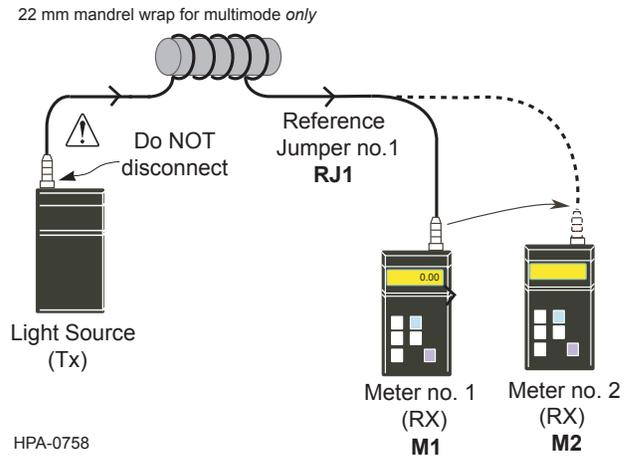

Figure 8
Step 2: Clean and insert the LC end of **RJ1** jumper into the LC port adapter of Meter no. 1 (**M1**) (Figure 8).